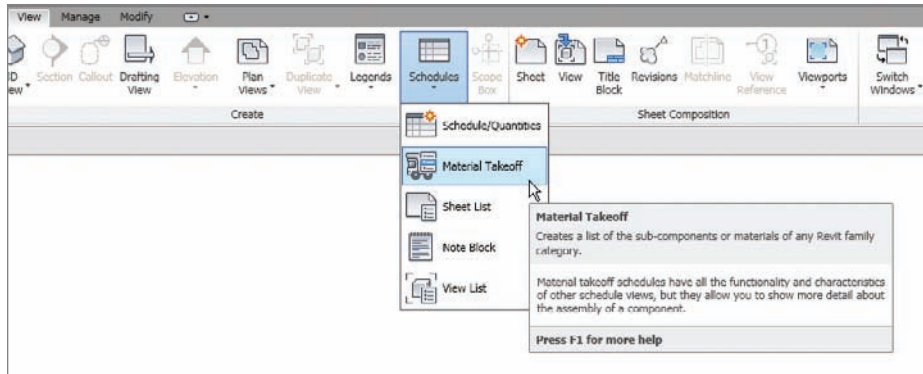

FIGURE 11.25 To add a new material takeoff, you must go to the View tab.
1. On the View tab, click Schedules > Material Takeoff, as shown in Figure 11.25.